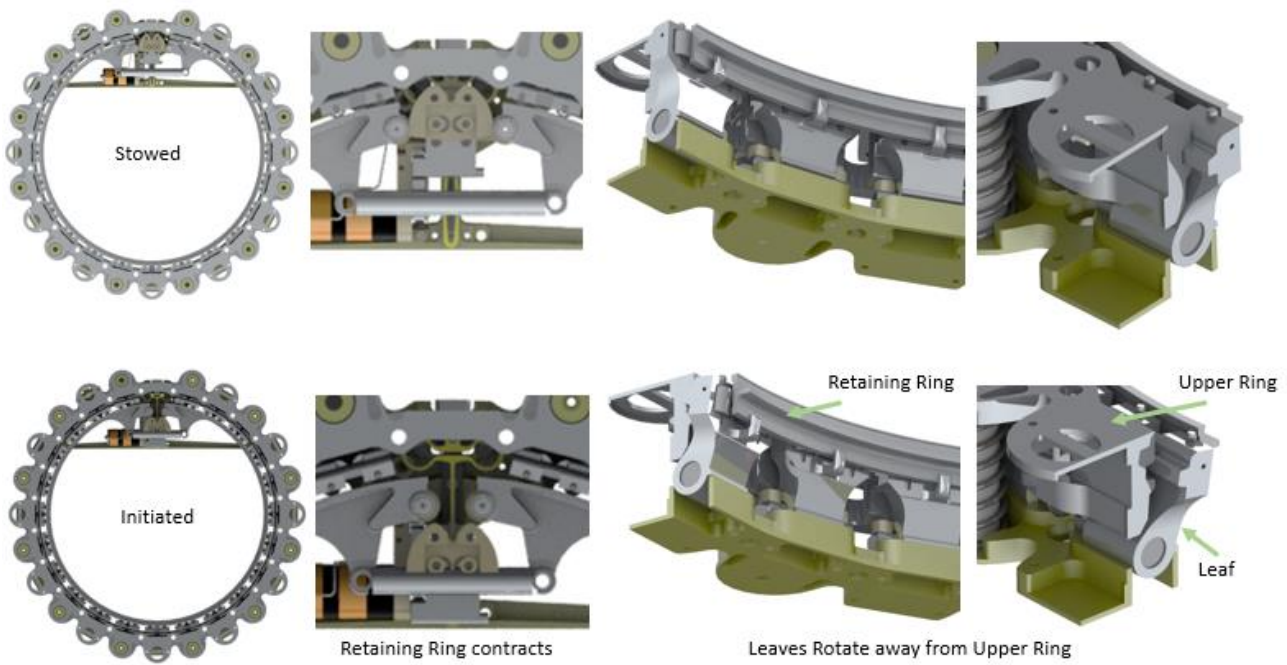
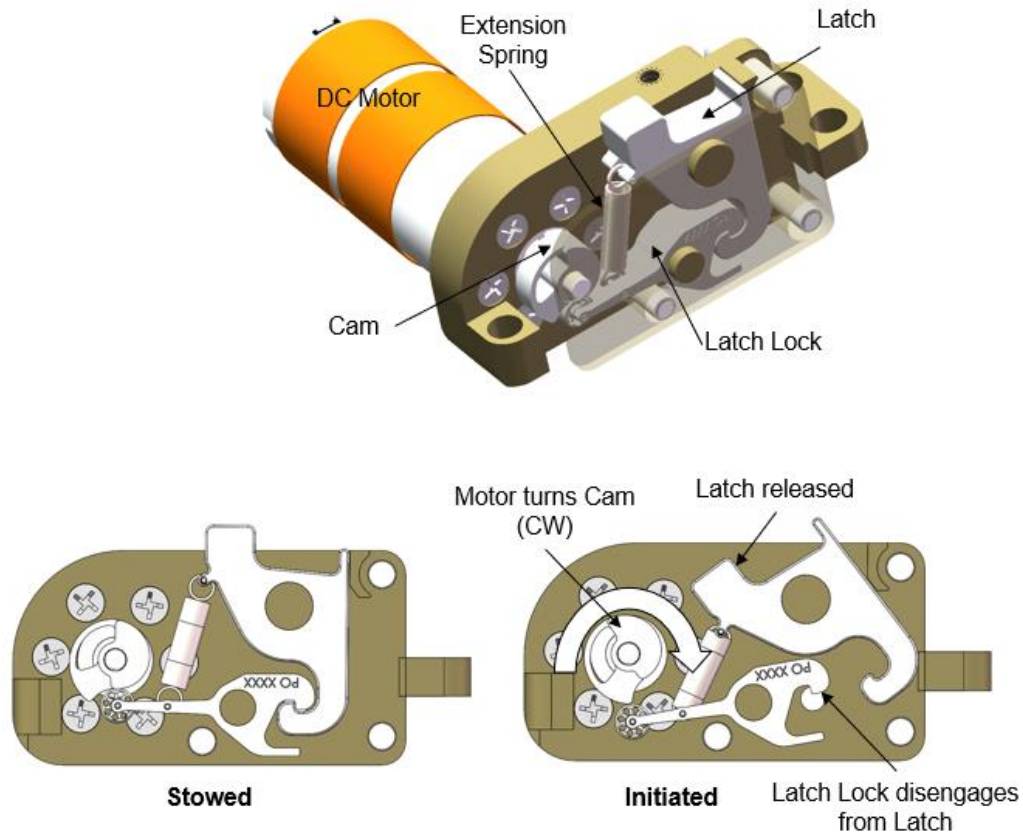
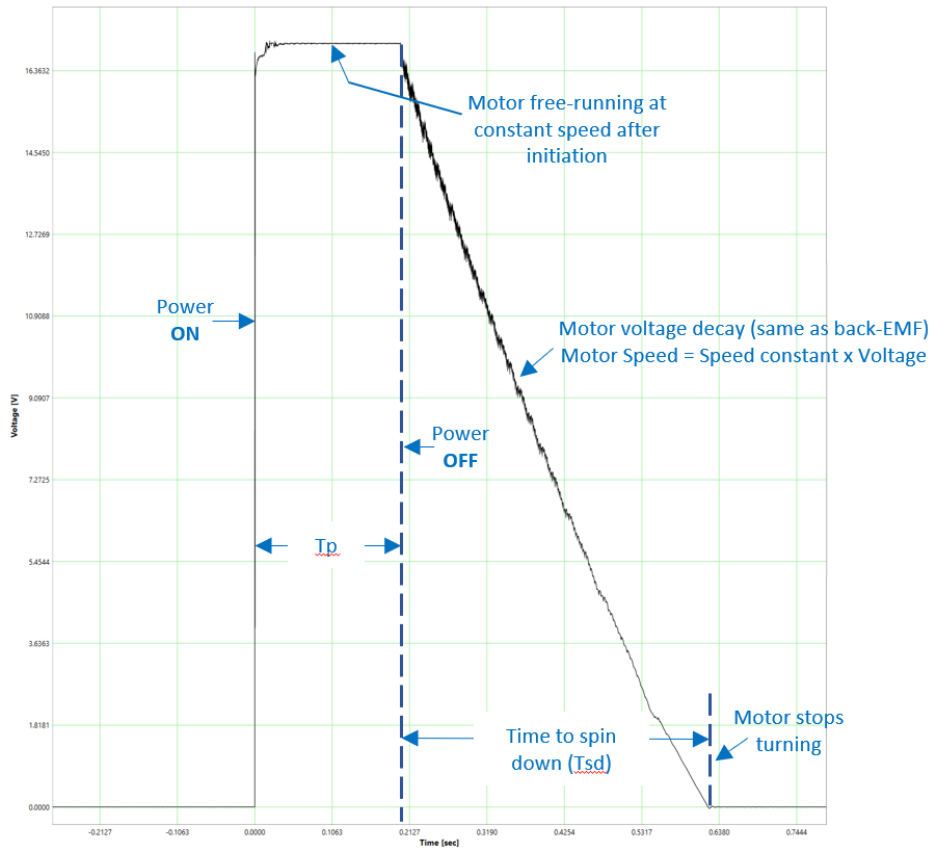
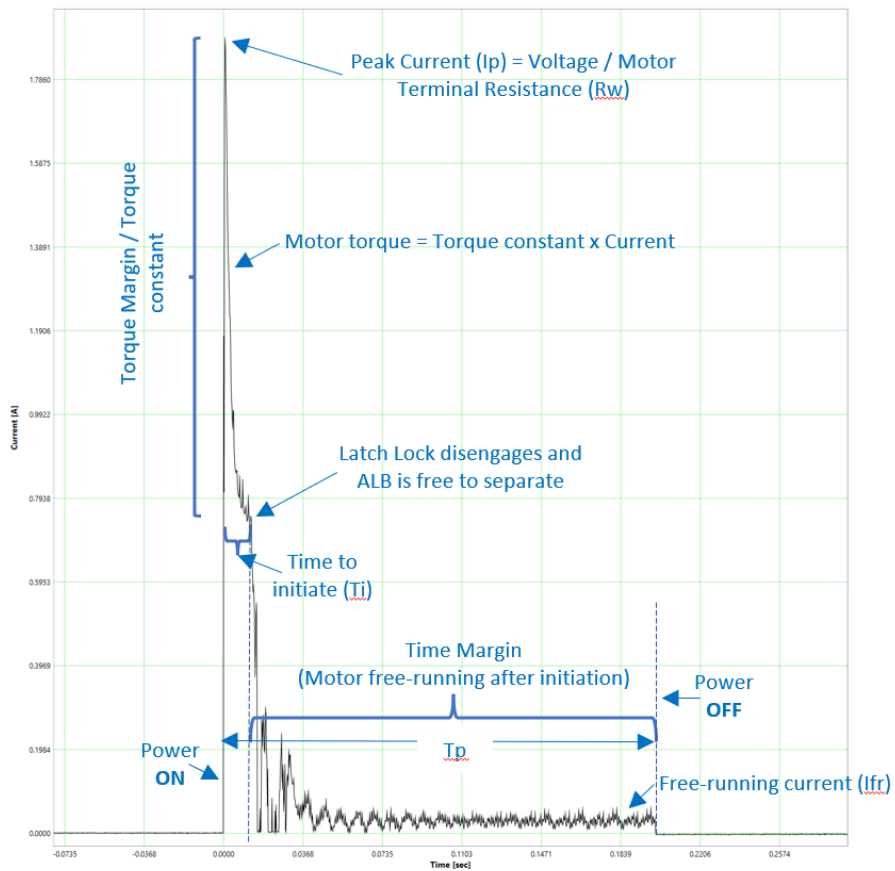

Figure 12-4: Deployment
Figure 12-5: Powered Motor and initiation
Figure 12-6: Example Deploy voltage profile at NTP
Figure 12-7: Example Deploy current profile at NTP
12.2.7	<p>To Deploy the Lightband:</p> <ol style="list-style-type: none"> 1. See Figure 12-6, Figure 12-7, and Table 12-1 for the anticipated current draw and power duration. 2. Designate a person to watch the power source output display. 3. Turn on the power source output. 4. Verify the oscilloscope trigger is active and ready to acquire data. 5. Activate the timer relay. This will send power to the motor and Deploy the Lightband. The Lightband should Deploy in ≤ 0.1 s. The motor can be heard rotating at about 60 cycles a second after initiation. <p>Manually cut power if the current limit is reached or the timer relay runs longer than specified. Then contact PSC per section 5. A visual inspection of the Lightband may be performed, but do not change configuration.</p> <p>Figure 12-4 shows how the ALB deploys. Figure 12-5 shows how the motor initiates the ALB.</p>